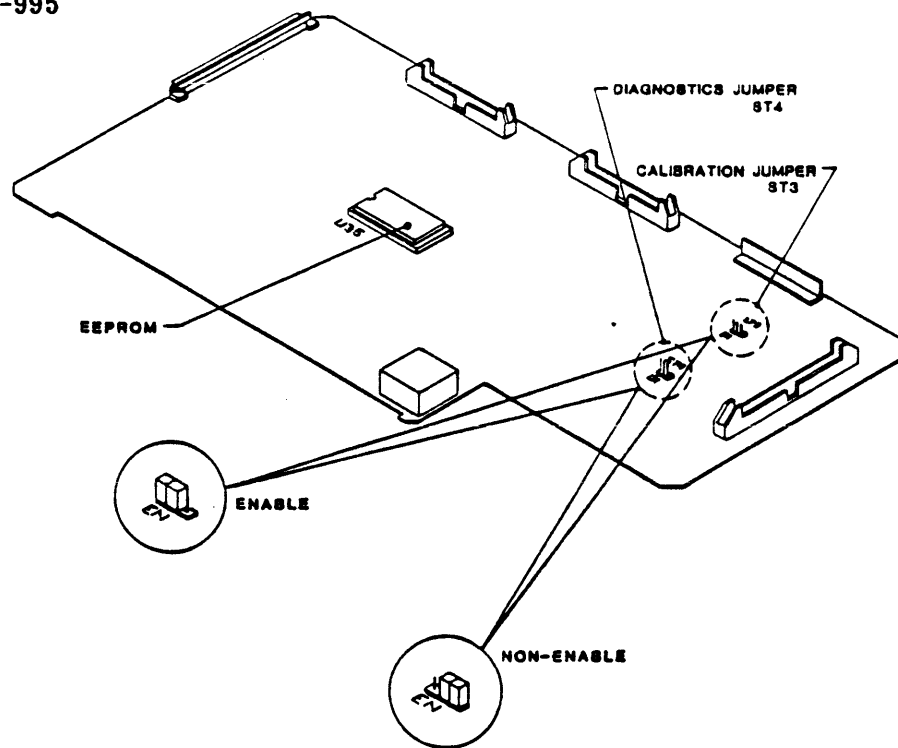

Figure 5-31. Drive Electronics Board, Calibration and Diagnostics Jumpers Location
3. On Drive Electronics Board (Figure 5-31), move the Calibration Jumper to ENABLE Position.